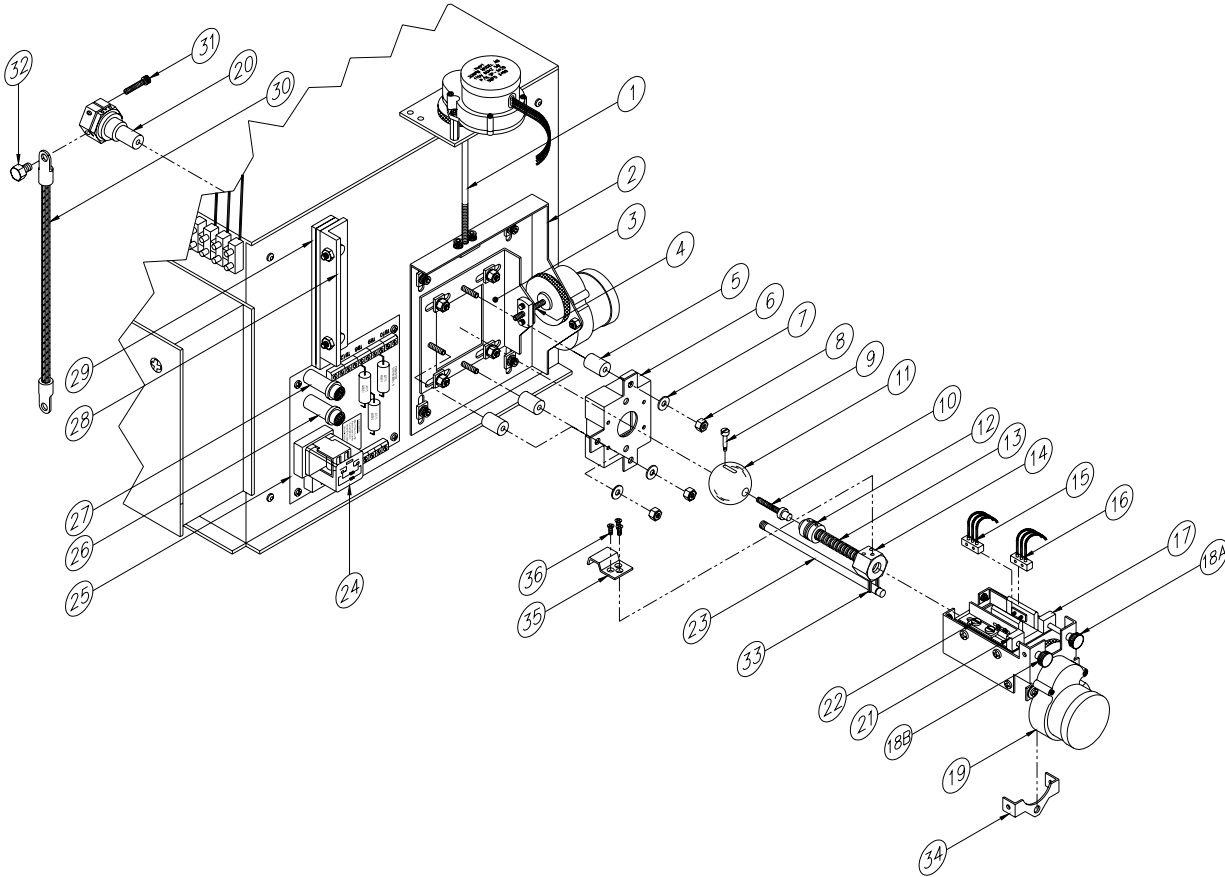

Figure A-1: Autofocus Assembly
The lamp autofocus is designed to give optimum light output in both scope and flat formats. After proper settings have been established, the motorized lamp adjustment automatically readjusts the lamp to its designated position. These adjustments are obtained by setting the two limit switches (Items 15 and 16 in Figure A-1) to their proper positions.
Connect two signal wires (Scope/Flat) from automation programmer to TB6-1 and TB6-2. (See Item 25 in Figure A-1.) Set switch S13 to DC mode. Provide 24 VDC pulse (+/-) to activate latching relay for scope/flat format.
Connect three signal wires (Scope/Flat) from automation programmer to TB6-1, TB6-2, and TB6-3. (See Item 25 in Figure A-1.) Set switch S13 to AC mode. Provide 115 VAC to TB6-1 or TB6-4 to activate latching relay for scope/flat format.
6. Adjust flat adjustment thumbscrew (Item 18A in Figure A-1): If green light (Item 26 in Figure A-1) is ON, turn thumbscrew counterclockwise until light goes out. If green light is not ON, turn thumbscrew clockwise until green light comes ON. Turn thumbscrew back and forth several times to determine exact position where green light turns ON. This position is correct setting for flat format.
8. Adjust scope adjustment thumbscrew (Item 18B in Figure A-1): If red light (Item 27 in Figure A-1) is ON, turn thumbscrew clockwise until light goes out. If red light is not ON, turn thumbscrew counterclockwise until red light comes on. Turn thumbscrew back and forth several times to determine exact position where red light turns ON. This position is correct setting for scope format.
9. Turn autofocus switch to ON (1).